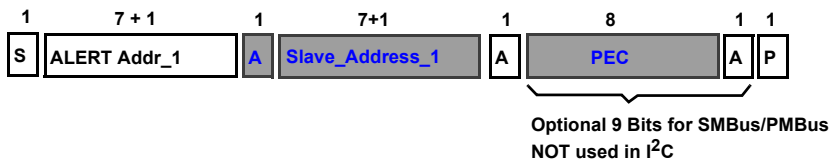

FIGURE 36. SMBus/PMBus/I²C PROTOCOL
The ISL6398 features SMBus, PMBus and I²C with programmable address via VRSEL_ADDR pin, as in Table 13, while SMBus/PMBus includes an Alert# line and Packet Error Check (PEC) to ensure data properly transmitted. In addition, the output voltage, droop slope, enable, operating phase number, and overvoltage setpoint can be written and read via this bus, as summarized in Table 14. Input, output, fault, and temperature telemetries can be read as summarized in Table 15. For proper operation, users should follow the SMBus, PMBus, and I²C protocol, as shown Figure 36. Note that STOP (P) bit is NOT allowed before the repeated START condition when “reading” contents of register, as shown in Figure 36.